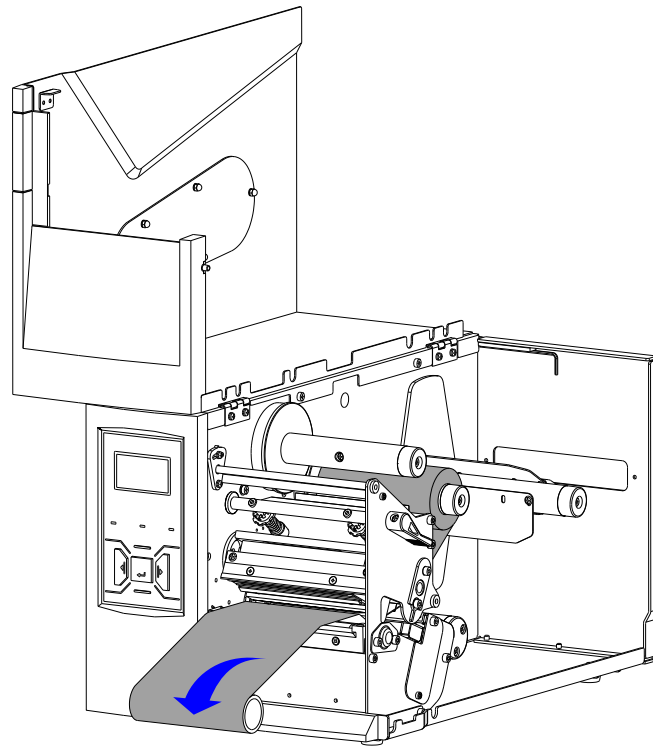

Figure 2-9 Ribbon Take-up Roll
6. Wrap the ribbon around a spare ribbon core to form a Ribbon Take-up Roll. See Figure 2-9.